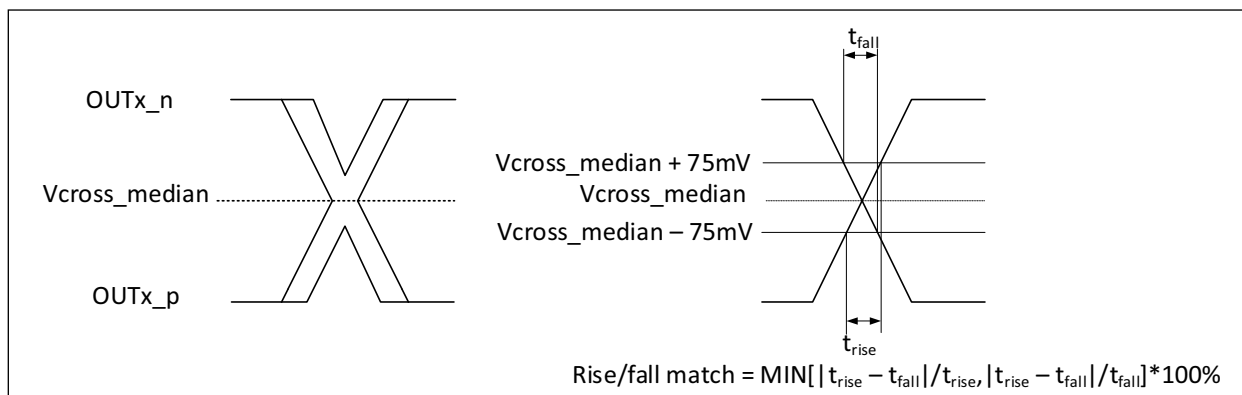

FIGURE 4-3: Single-Ended Measurement Points for Rise and Fall Time Matching.
- 13: Matching applies to rising edge rate for CKx and falling edge rate for CK#x. It is measured using a ± 75 mV window centered on the median cross point where CKx rising meets CK#x falling. The median cross point is used to calculate the voltage thresholds the oscilloscope is to use for the edge rate calculations. The Rise Edge Rate of CKx should be compared to the Fall Edge Rate of CK#x the maximum allowed difference should not exceed 20% of the slowest edge rate. See Figure 4-3.